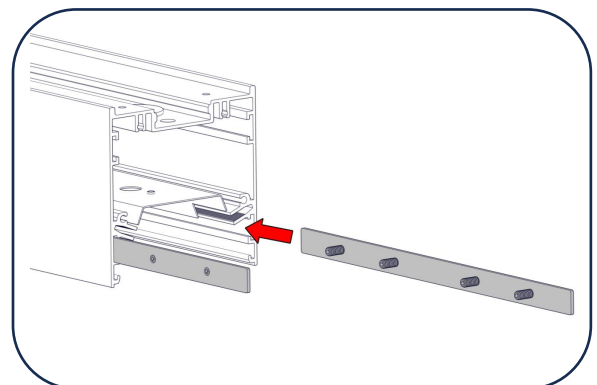

Figure 4
9. Insert **Inner Joiners** into the side(s) of the starter fixture [Figure 4]. Tighten with a Hex Key or Ratchet.